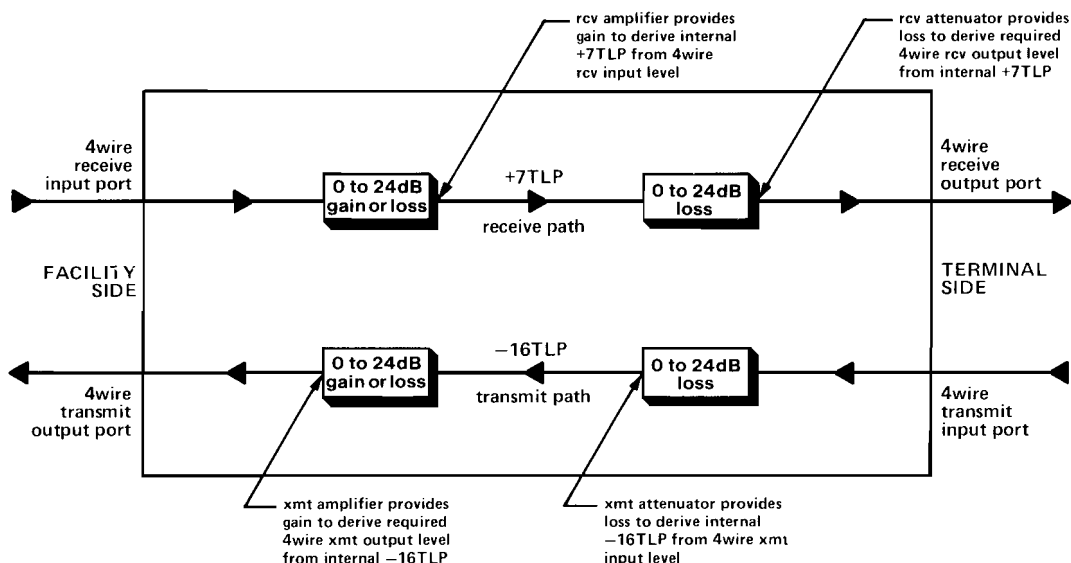

figure 11. Level coordination in the 6161X
3.12 Because internal TLP levels of +7TLP in the receive path and -16TLP in the transmit path must be maintained regardless of external levels, two level control circuits are present in each path. This is shown in figure 11.
performs the switching functions necessary for signaling-loopback operation. The *control logic* circuit receives an indication from the *SF detector* when tone is received and causes the *E&M signaling interface* to output the proper E-lead or M-lead states. Figures 11, 12, and 13 are function sequence flowcharts that illustrate the signaling operation of the 6161X with A-side signaling. Horizontal paths identify events occurring simultaneously, and vertical paths denote sequential events. Dotted lines indicate elapsed time.